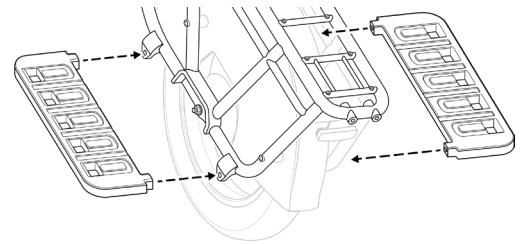

Figure 1 Position running boards for installation.
3. **Position the running boards.** Start at the mounting point that is the farthest back on the ebike. Place a lock washer and flat washer against the bolt head, pass the bolt from the tire side through the mounting point on the frame, and tighten partway by hand. Repeat on the front mounting point. Refer to Figure 1.